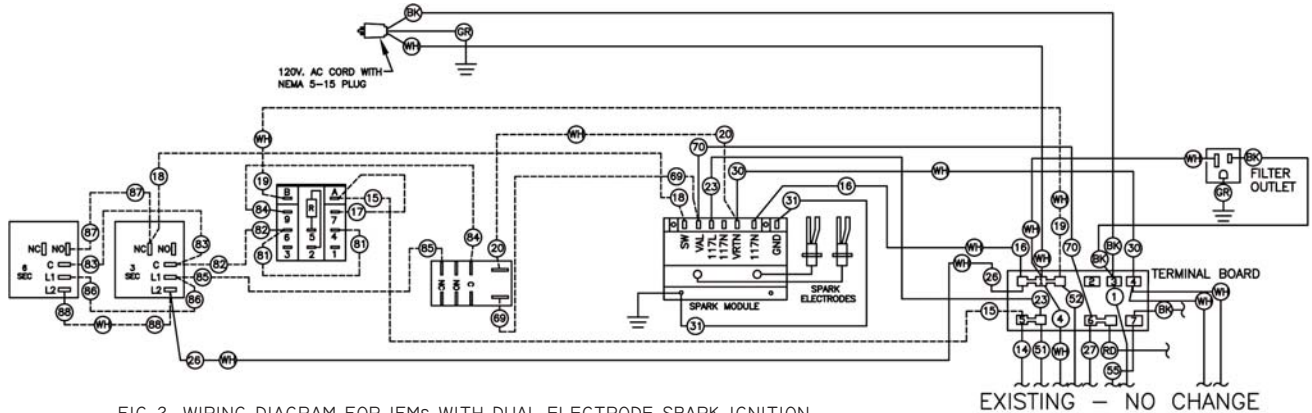

FIG 2. WIRING DIAGRAM FOR IFMS WITH DUAL-ELECTRODE SPARK IGNITION MODULE (PART # 019724) AND RELIGHT CIRCUIT
2. Remove and discard the following wires: wire # 15, 17, 18, 19, 20, 69, 81, 82, 83, 84, 85, 86, 87 and 88. These wires are shown by dotted lines in Fig. 2 below. Also disconnect wire # 26 (shown by a solid line in Fig. 2) from the relight circuit. Unscrew and discard all the relight circuit components.